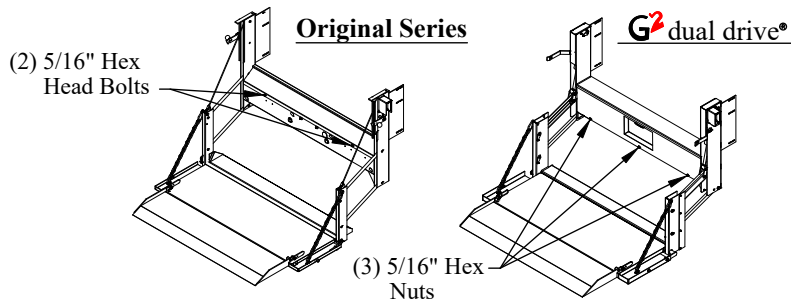

Figure 11: Box cover locations.
2. **Mark** two (2) 1/4" hole locations on the truck body using the tube holder as a guide.
3. **Check** for obstructions and **Drill** two (2) 1/4" holes in the positions marked in step 2.
4. **Fasten** the tube holder with the supplied two (2) 1/4"x3/4" bolts and locking nuts.
5. **Remove** and **Discard** the black plastic plug in the rear of the liftgate for spare tire tube access (Figure 11).
1. **Remove** the box cover by removing the 5/16" hex head nuts or bolts (Figure 11).